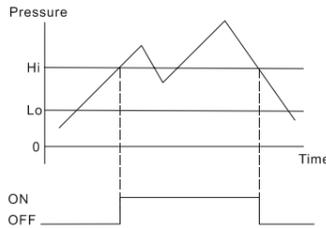

Figure 2: Output in Hysteresis Mode
- Hysteresis Mode: Set up pressure Hi/Lo. When the pressure measured is bigger than the Hi value, the output will be ON. When the pressure measured is smaller than the Lo value, the output will be OFF. (See Figure 2: Output in Hysteresis Mode)